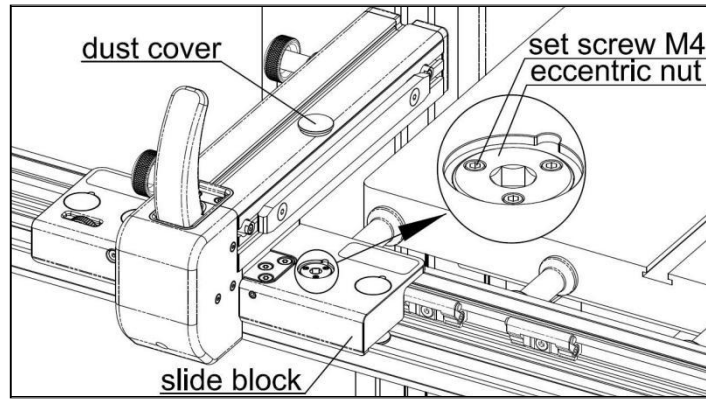

Fig. 10-4
1. As shown in Fig. 10-4, remove the magnetic dust cover from the slide block.